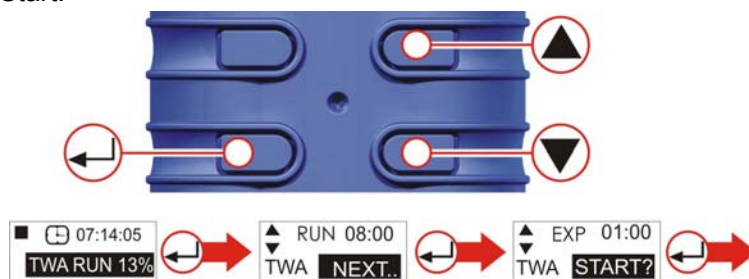

Figure 8 Time Weighted Average
E. TIME WEIGHTED AVERAGE (TWA) PRO ONLY (Fig. 8) (Only activated when advanced mode is selected-see configuration chapter)